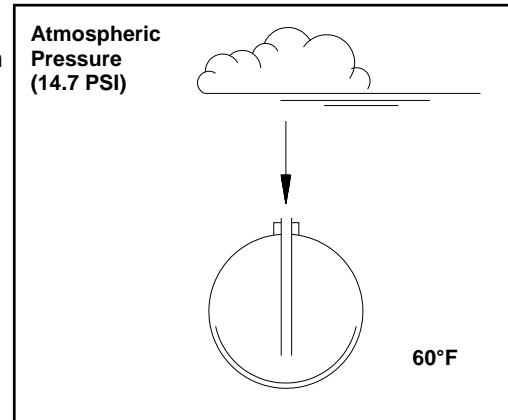

Figure 1
**Atmospheric Pressure** of 14.7 PSI (Sea Level) presses on the liquid in the tank. See Figure 1.